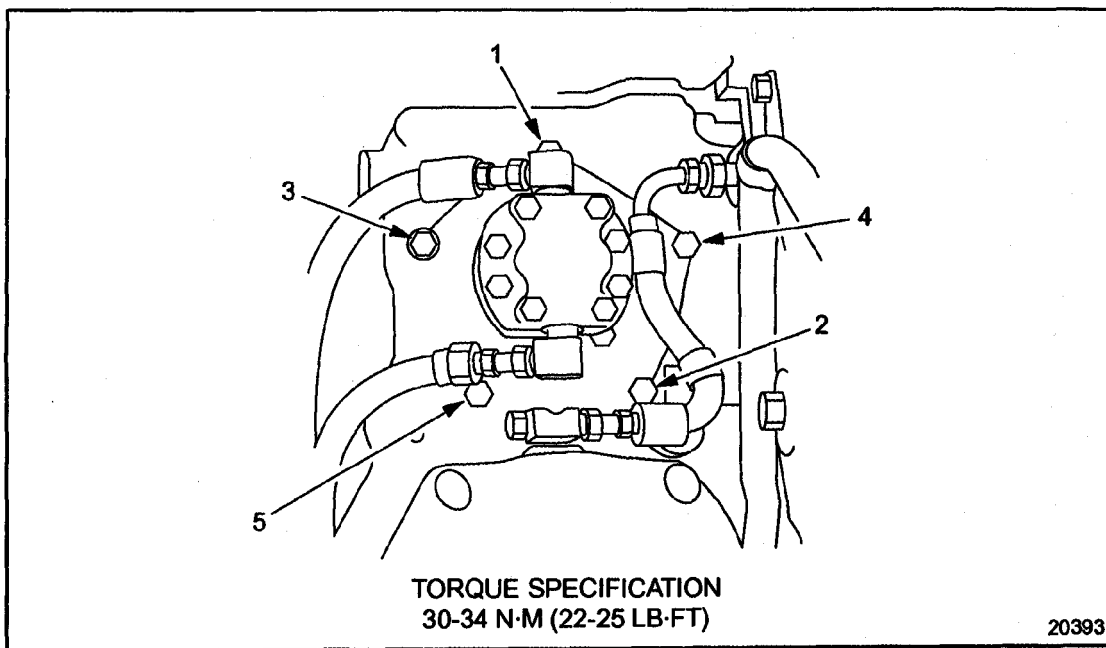

Figure 2-54 Fuel Pump Drive Retaining Bolt Torque Sequence
2. Install the fuel pump drive bolts and torque to 30-34 N·m (22-25 lb-ft) using the torque pattern shown. See Figure 2-54.